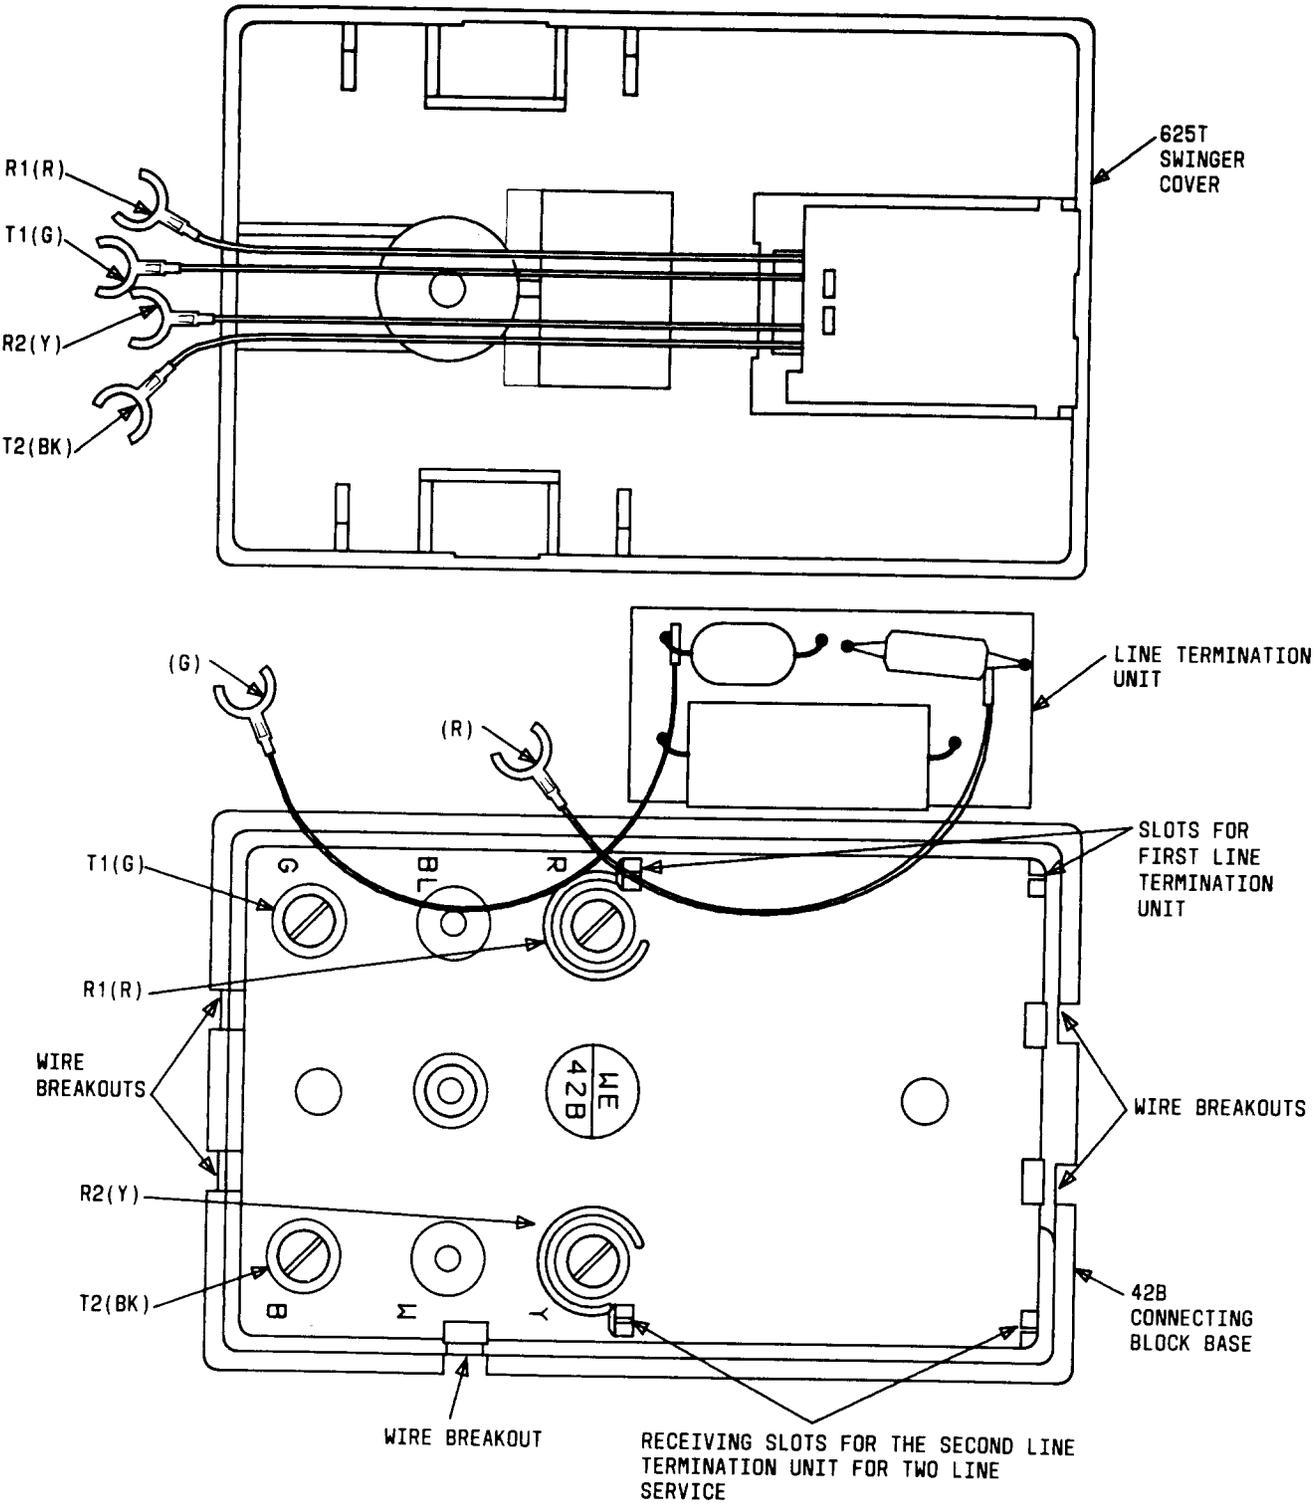

Fig. 1—Exploded View of 625TD Connecting Block
- (b) Add terminal designations and extra callouts to Fig. 1.
2.01 The 625TD connecting block assembly (Fig. 1) is made up of the following: